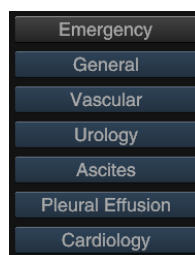

Figure 167: Emergency measurement
*The emergency* calculation package includes general physiological calculation elements (e.g. abdomen, vascular, urology and cardiology, etc. ), as shown in Figure 167. This makes it convenient for operator to quickly find the required measurement element in an emergency and perform a quick measurement and diagnosis.